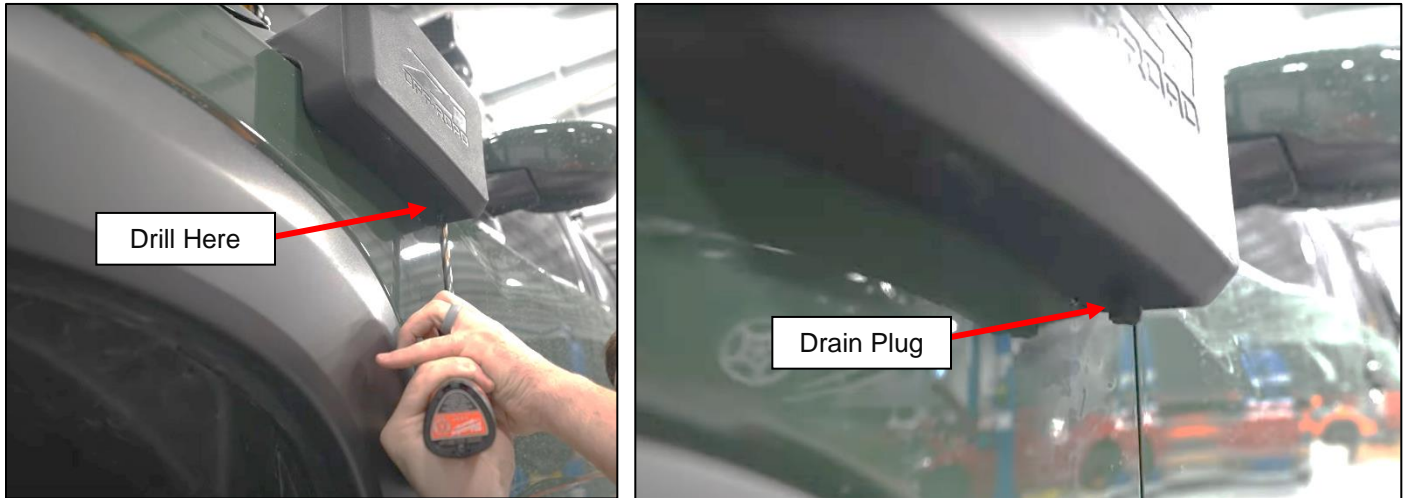

Figure 25
40. This step is optional if you want a Weep Hole or Drain Plug on your Z1 Snorkel. Drill a 3/8" Hole in the bottom of the Snorkel. Once drilled, insert the supplied Drain Plug in the new hole, or it can also be left open as a weep hole. If you don't want a Drain Plug, skip to *Step 41*. *Figure 25*.